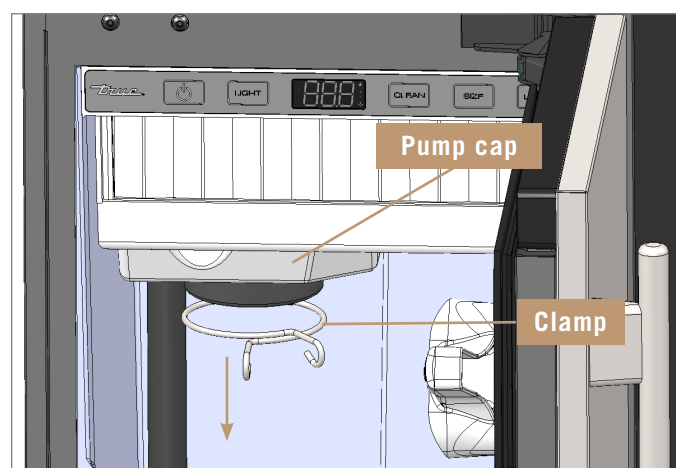

FIG. 1. Pump cap and clamp locations.
1. Remove the pump clamp. See fig. 1.